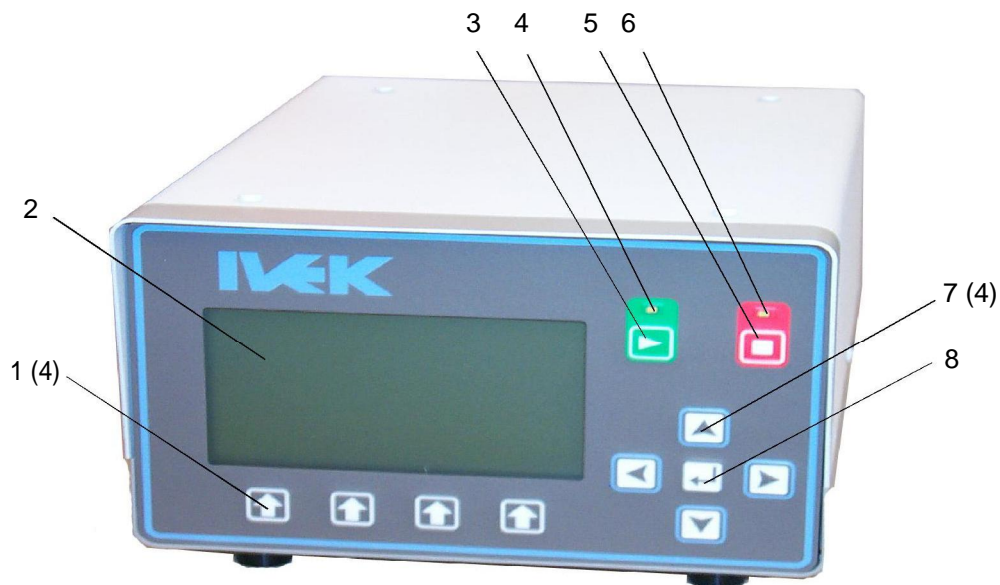

Figure 3.1 Digispense 3009 Controller Module Front Panel
3.1.1 Front Panel Controls And Indicators (Figure 3.1)
3.1.1.1 Function Push-buttons (Figure 3.1 Item 1)
3.1.1.2 Display (Figure 3.1 Item 2)
3.1.1.3 Start Push-button (Figure 3.1 Item 3)
3.1.1.4 Start LED (Figure 3.1 Item 4)
3.1.1.5 Stop Push-button (Figure 3.1 Item 5)
3.1.1.6 Stop LED (Figure 3.1 Item 6)
3.1.1.7 Arrow Push-buttons (Figure 3.1 Item 7)
3.1.1.8 Enter Push-button (Figure 3.1 Item 8)